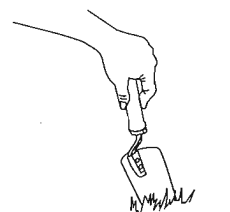

Figure 7
- If the ground is too hard, loosen the soil with water or dig a small pilot hole (Figure 7).